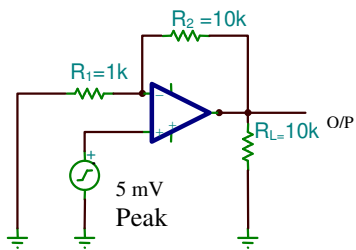

Fig. 4a Non-Inverting amplifier
1. Make a non-inverting amplifier circuit as shown in Fig 4a. Give an ac signal (frequency 1KHz, 10 mV peak). Measure output signal amplitude and phase. Repeat the measurements for ac signals of 500mV peak, 1 KHz and 100mV 100KHz. Compare the gain with the theoretical value for all inputs.